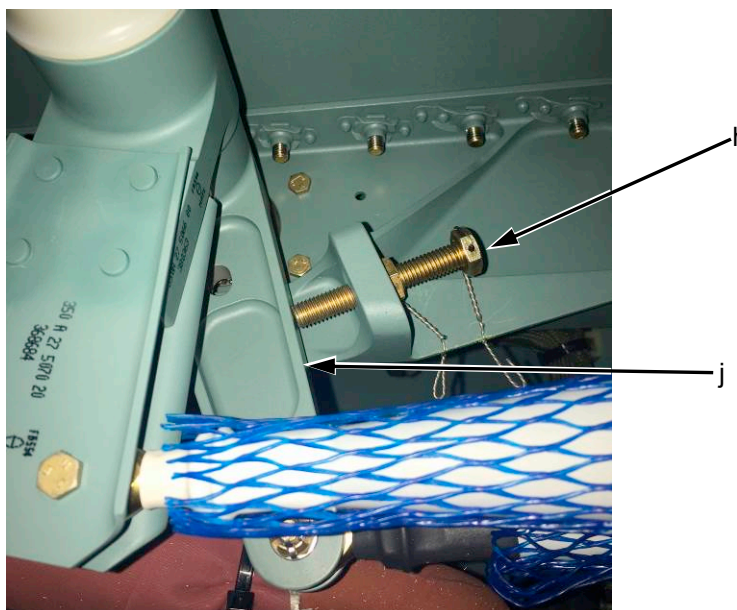

Figure 3
### 3.B.5. Final steps following tests (Figure 3)
(see Figure 3 below).
- . check, under the floor, the contact between low pitch stop screw (h) and collective pitch stick (j) (Figure 3, page 7/11).